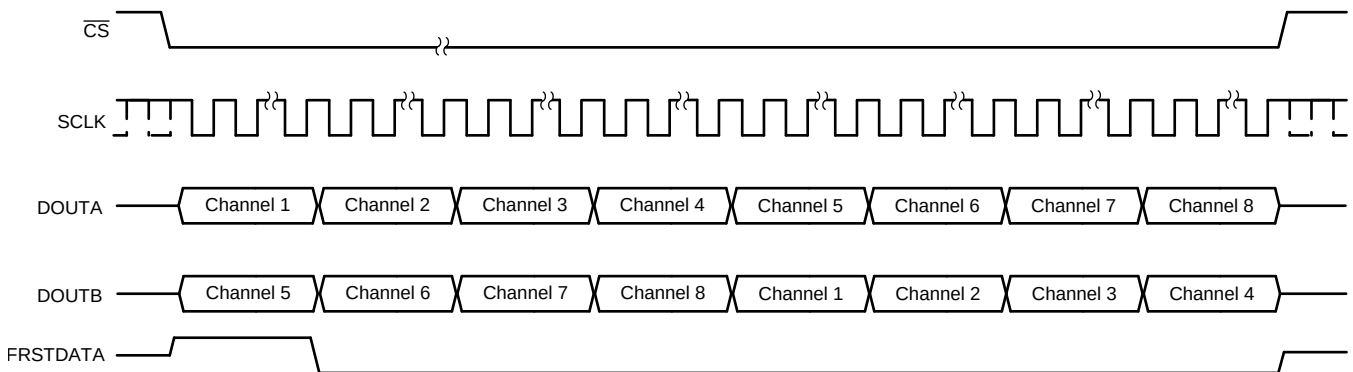

Figure 69. Data Read Back in the Serial Interface Using Either DOUTA or DOUTB Timing Diagram
- The conversion data can be read out of the device using only one of the two serial output lines, DOUTA or DOUTB. In this case, using DOUTA for output data read back is recommended because channel 1 data appear first on DOUTA followed by the data for other channels in ascending order. To read the data for all channels, provide a total of $16 \times 8 = 128$ SCLK cycles for the ADS8588S. This entire data frame can be created within a single $\overline{CS}$ pulse or each group of 16 SCLK cycles can be individually framed by the $\overline{CS}$ signal. The primary disadvantage of using just one data line for reading conversion data is that the throughput is reduced if a data read operation is performed after conversion. Figure 69 shows this operation.
- Alternatively, only DOUTB can be used for reading the conversion data from all channels. In this case, everything else remains the same and the output bit stream contains data for all channels in the following order: channels 5, 6, 7, 8, 1, 2, 3, and 4 for the ADS8588S. Figure 69 shows this operation.